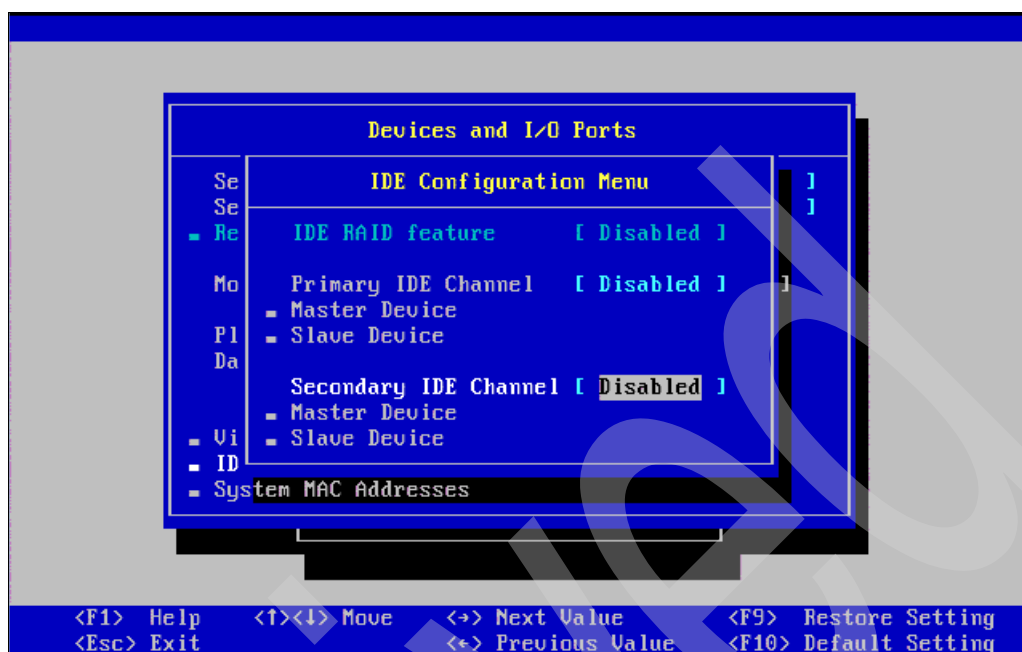

Figure 5-57 Disabling IDE Devices
3. Disable any onboard or internal hard drives. Select the IDE configuration from the next menu and disable the primary IDE and secondary IDE connections, as shown in Figure 5-57. If necessary, also disable SAS or SATA controllers. Make sure that the CD drive will still operate. Do not disable the interface to the CD drive.